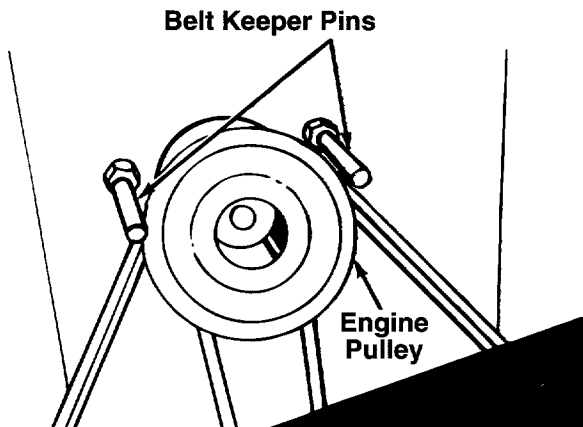

FIGURE 21.
NOTE: Figures 21, 23 and 24 are shown with the unit tipped up for clarity. It is not necessary to tip the unit to remove the belts.
2. Remove the belt keeper pins from the engine pulley belt guard. See figure 21.
3. Remove the belt keeper pins from the engine pulley belt guard. See figure 21.